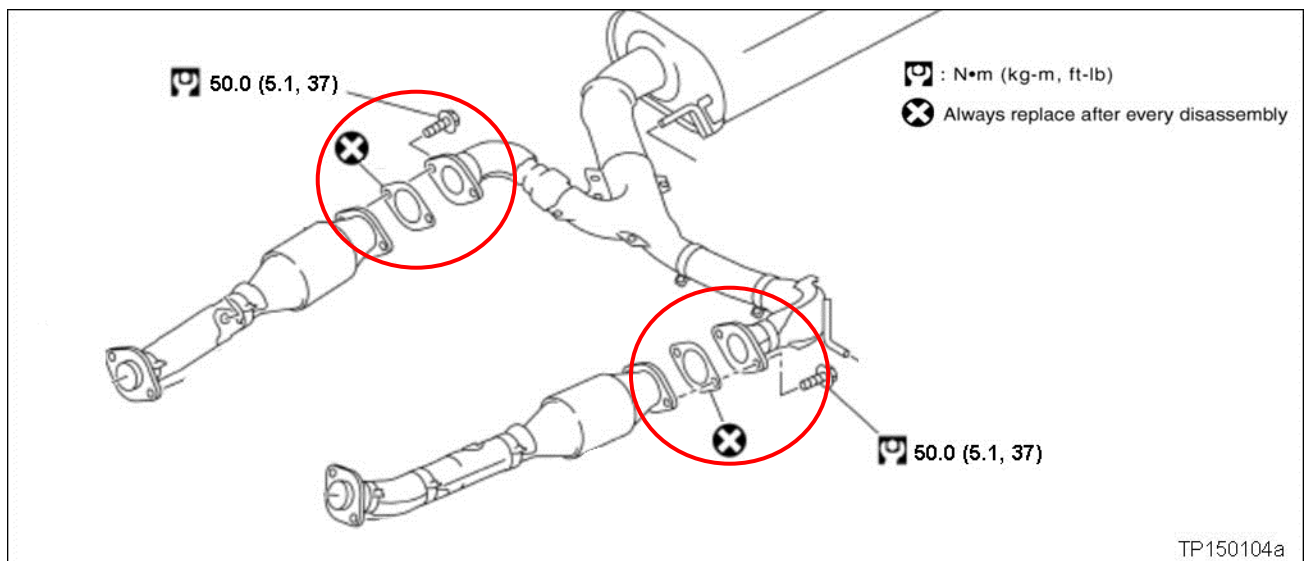

Figure A1
5. Disconnect the exhaust in the locations shown in Figure A1.